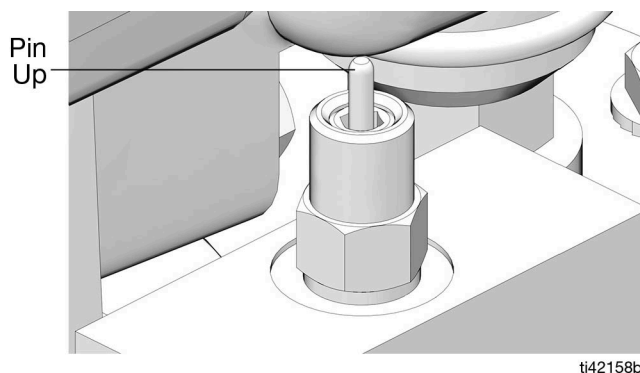

FIG. 3
4. Remove Dust Cover (T) from Fill Coupler (M).
5. Connect Supply Hose (J) between the Remote Filling Stations Pump (H) and Fill Coupler (M) port marked with an "I".
6. Start Remote Filling Station Pump (H).
7. When Reservoir (E) is filled:
- the Remote Filling Station Pump (H) stalls (dead-heads),
- the Auto-Fill Shut Off pin pops up as shown in FIG. 3,